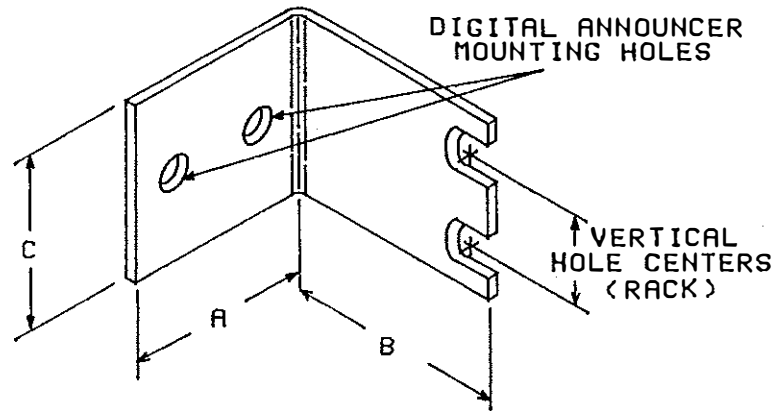

Fig. 18 - Mounting Brackets
5.07 Mounting Brackets (figure 18) to adapt the digital announcer series of products for use in standard equipment bays enclosures, or relay racks are itemized in table 5. Different sizes, shapes and finishes match the brackets to the equipment and a variety of equipment mounts, including Bell standard, RETMA, and EIA universal. Brackets are also available to support Northern Telecom switching equipment such as the SL-1 and DMS product lines. The brackets are reversible and allow flush, protruding, or recessed mounting.